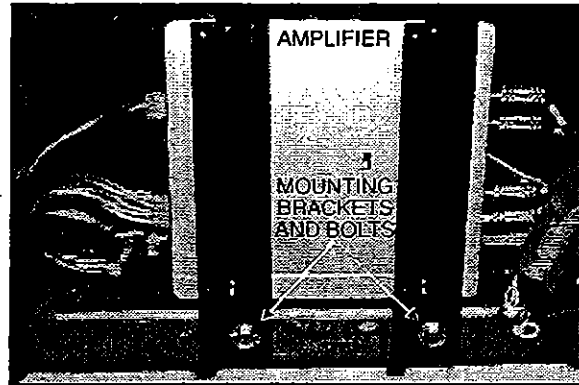

Figure 4
4. Disconnect wiring connectors from both sides of amplifier(s) (refer to fig. 4).
5. Remove the two bolts and nuts retaining mounting bracket to the structure (refer to fig. 4). Then take out amplifier(s) from its (their) location.